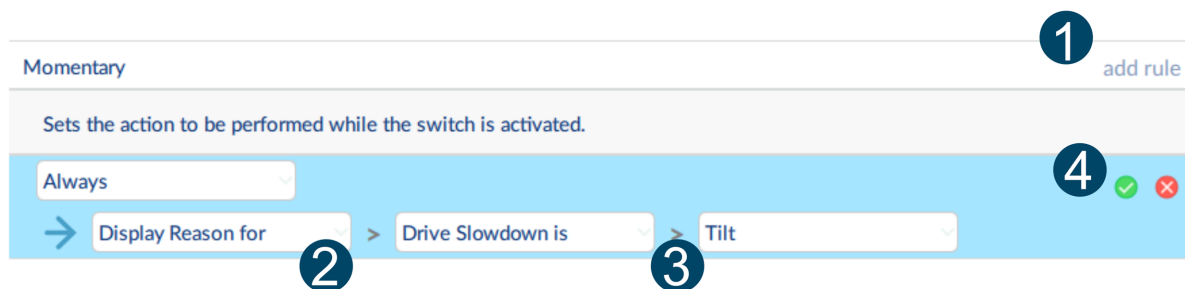

Figure 92: Configuring an always rule
1. Hover your mouse pointer over a control IO slot and click on the **add rule** button when it appears on the right-hand side of the slot Figure 92 ①. Make sure the **conditions** dropdown menu is set to **Always**.
2. Click on the first **output action** drop-down menu, which is on the left-hand side, under the **conditions** dropdown menu, and select an output action Figure 92 ②.
3. Click on the second and third output action drop-down menus (if available) to refine the output action Figure 92 ③.
4. Click on the **Commit rule** button (check mark) to commit the rule Figure 92 ④.